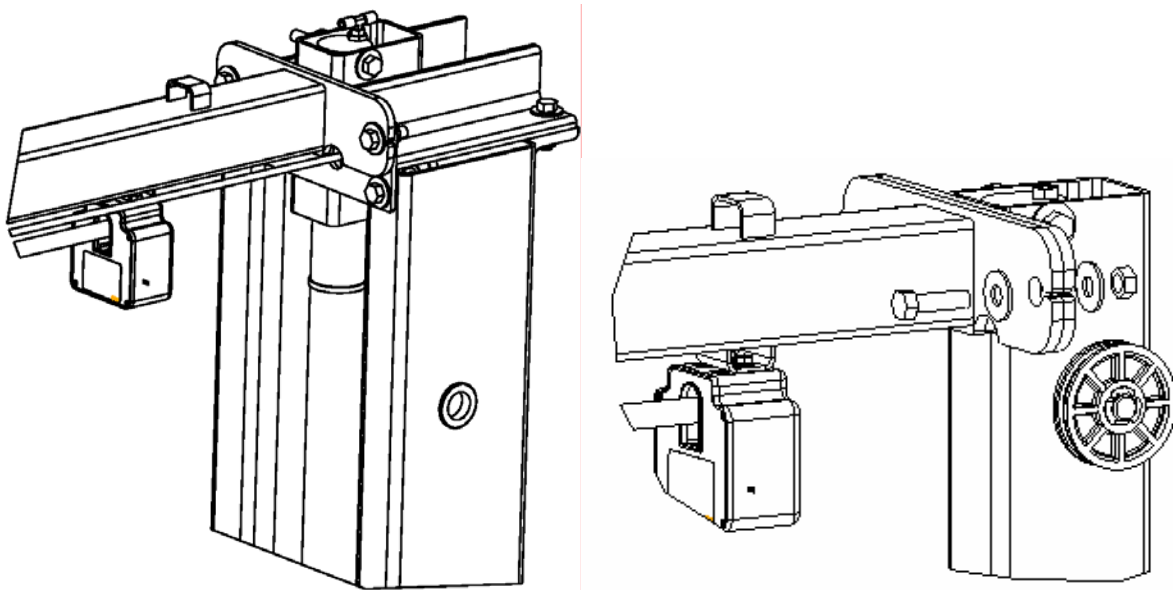

Figure 11
- * Raise the overhead beam and secure it to the cylinder mount or upright using two 1/2 x 1-3/4 bolts, washers and nuts on each end, Figure 11.